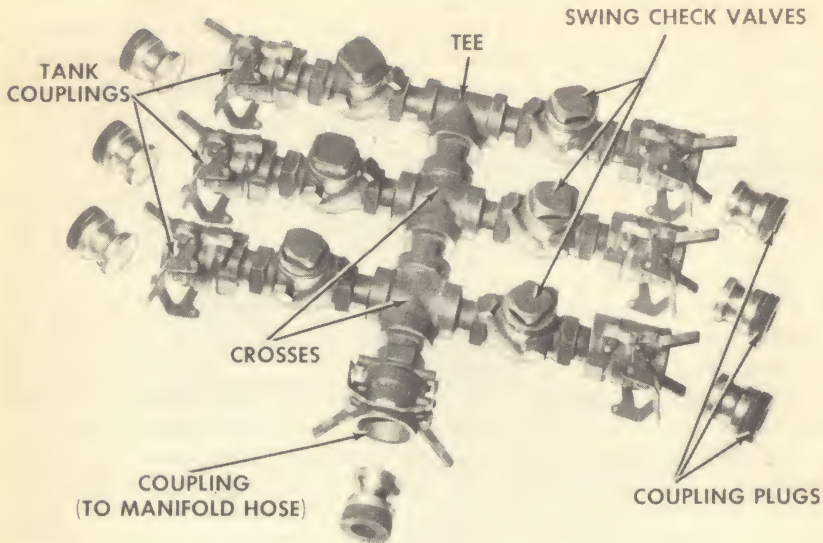

Fig. 19. Manifold assembly with coupling plugs removed.
d. Remove coupling plugs from the couplings on manifold assembly (fig. 19). Hose from flame throwers may then be connected to manifold as described in subparagraphs g and h below.